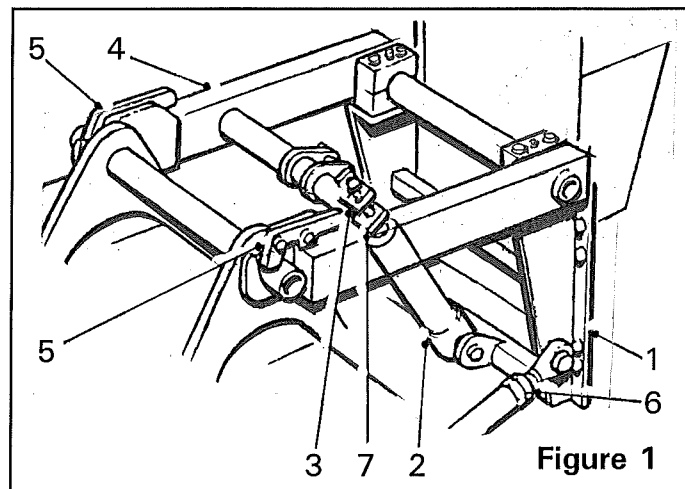

Figure 1
The Turbo Topper mounting frame (*item 1, figure 1*) should be fitted to the front of the tractor supported by special mounting brackets. There are various bracket kits available to suit individual tractors and they should be fitted by bolting them to the existing holes in the tractor chassis with the bolts supplied in the kit.
On initial setup, the topper lift ram (*item 2, figure 1*) will need to be coupled to the tractor external control lever. After attaching the harvester, the lift ram hose should be coupled to the harvester ram circuit.
1. Lift the stop plate (*item 3, figure 1*) clear of the ram.
2. Drive the tractor forward and locate the hooks on the lift arms (*item 4, figure 1*) around the topper lift bar. Ensure the lift bar is fully located before any attempt is made to lift the topper.
3. Lift the topper by actuating the hydraulic ram. Ensure the latches (*item 5, figure 1*) have positioned themselves over the lift bar as shown.
4. Fit the stabiliser links (*item 6, figure 1*) between the mounting frame and the topper. When in work, the front of the topper should be set lower than the rear. To achieve this, turn the stabiliser body clockwise or anti-clockwise.
2. Remove the stabiliser links (*item 6, figure 1*).
3. Reposition the latches (*item 5, figure 1*).
4. Lower the topper to the ground. When in contact with the ground, continue to lower the lift arms (*item 4, figure 1*) and then slowly reverse the tractor.
The stop plate (*item 3, figure 1*) reduces the amount of float should the depth wheel sink into the ground when travelling on undulating ground or soft soil patches. The size of gap between the stop plate and the hydraulic ram determines the amount the topper is allowed to drop. To adjust the stop plate, simply turn the locknuts (*item 7, figure 1*).